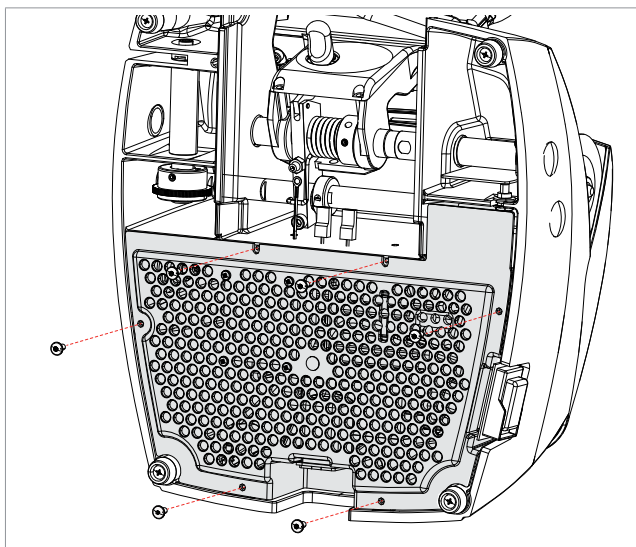

Fig. 37
- 4) Loosen the 6 screws to remove the bottom plate (Fig. 37).
- 6) Replace the bottom plate and secure with the 6 screws (Fig. 37).
- 10) Replace the bottom plate and secure with the 6 screws (Fig. 37).